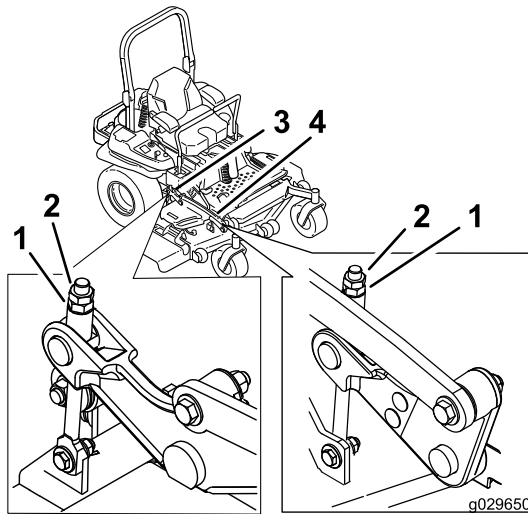

Figure 93
10. Fine-tune the adjustment nut on the front deck lift assembly by turning it (Figure 93).
16. Fine tune the screw adjuster by turning it to get 8.3 mm (3-1/4 inch) height (Figure 93).